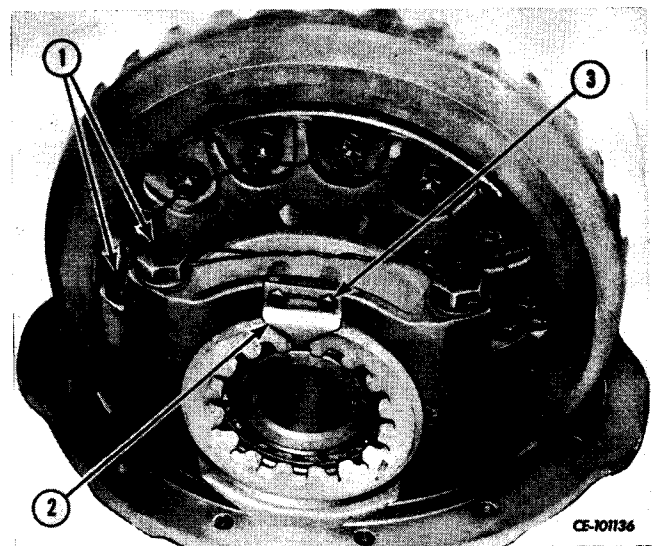

Figure 6-38
After establishing correct tooth contact, install adjusting nut locks (2, Fig. 6-38) and cap screws (3). Tighten cap screws and lock wire. Lock wire bearing cap screws (1).